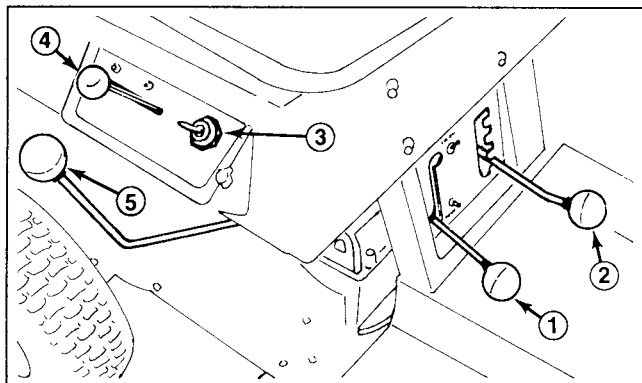

Figure 5
**Gear Shift** (Fig. 5) — The transmission has five forward speeds, neutral, and reverse. The gear shift lever is located on right side of operator. An interlock switch, which prevents engine from being started when transmission is in gear, is mounted on top of transmission.
**Blade Control** (Fig. 5) — Blade control engages and disengages the cutter blade. An interlock switch prevents engine from starting when control is in the ENGAGE position. Engine will start when control is in the DISENGAGE position only.
**Throttle Control** (Fig. 5) — Throttle control connects to and operates carburetor-mounted throttle and choke. Control has three positions: SLOW, FAST and CHOKE.
**Height-of-Cut** (Fig. 5) — Height-of-cut control varies the cutting height from approx. 1-1/2 to 3-1/2 inches in five increments.
2. Move gear shift into neutral and blade control into DISENGAGE detent (Fig. 5).
3. Move throttle control to CHOKE position (Fig. 5) when starting a cold engine. However, a hot engine
4. Rotate ignition key (Fig. 5) to START position. When engine starts, release the key and move throttle between FAST and SLOW if choke was used for starting. Operate the rider with throttle control in FAST (full throttle) position for best performance.
1. Move blade control into DISENGAGE detent (Fig. 5).
2. Move height-of-cut control (Fig. 5) into desired setting.